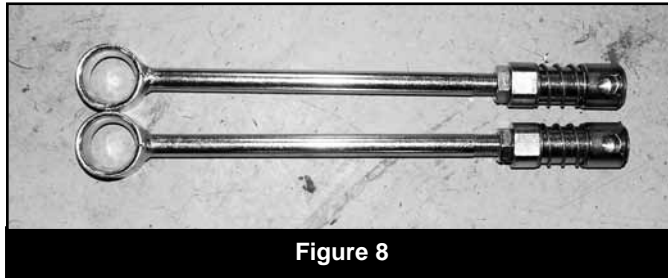

Figure 8
31. Lightly grease and install the provided sleeves (45313) into the link bushings. Thread the nut and assembly all the way on to the link (Fig 8). Attach the links to the u-brackets on the sway bar with the provided 3/8" x 2-1/2" bolt, nut and 3/8" SAE washers, running from the inside out. Torque bolt to 30 ft-lbs. Leave the sway bar links disconnected at this time.